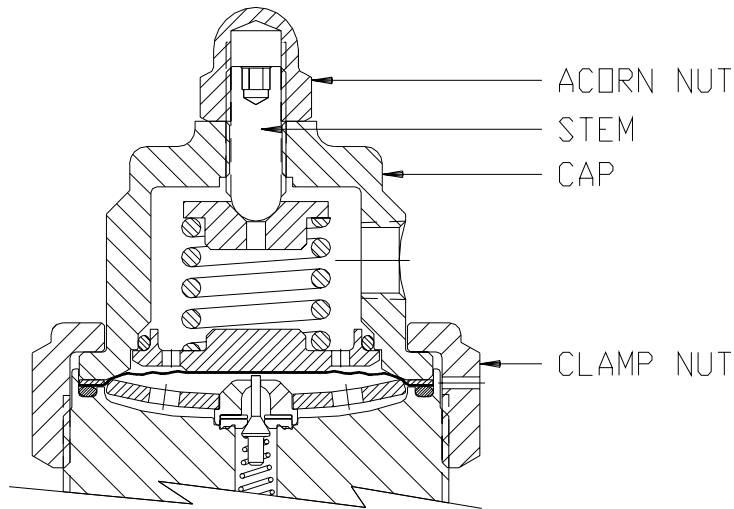

Figure 2
2.0.3 Disassembly of IR6000 1st Stage. Clamp the body in a vise. Use inlet and outlet fittings to prevent body from rotating. Remove acorn nut (See Figure 2) mark stem and cap with marker. Turn the stem counter clockwise and count the number of turns until the stop is reached. Note number of turns. (Follow 2.0.2 for 2nd Stage)
3.0.10 IR6000 1st stage setting: Turn stem clockwise the number of turns noted from 2.0.3 and line up the marks on the stem and cap. Re-install acorn nut and tighten. (See Figure 2)